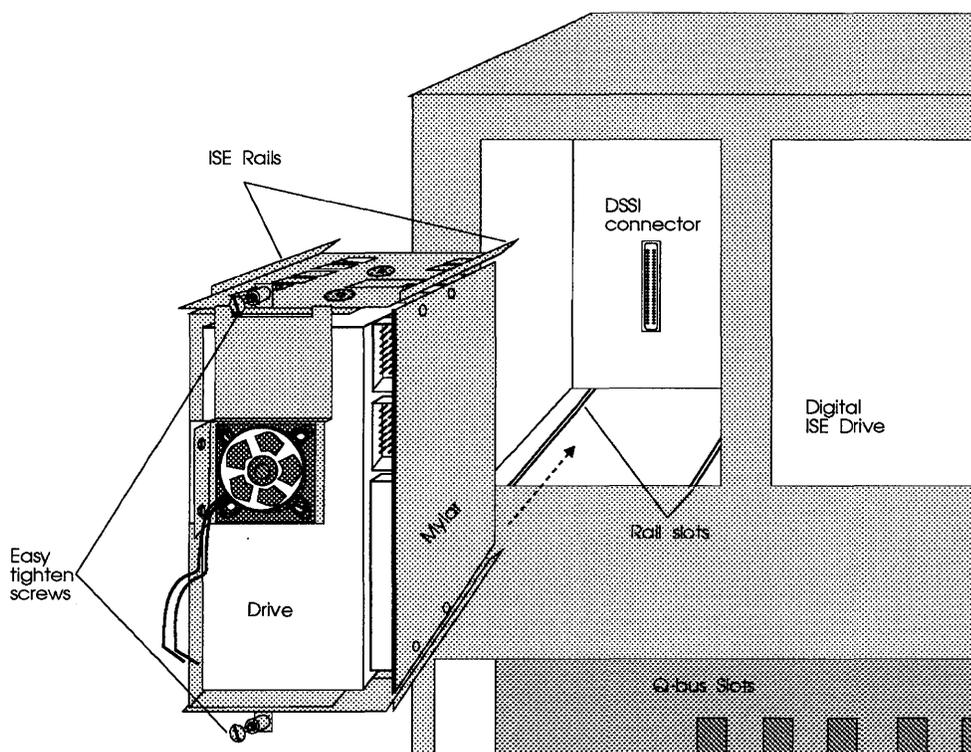

Figure 4-8: CDI-4000-SAE ISE and drive installation
- 13 Align the ISE rails with the rail slots in the system and slide the ISE with the drive into the system until the floating connector is tightly in the DSSI connector in the backplane of the system. See Figure 4-8.